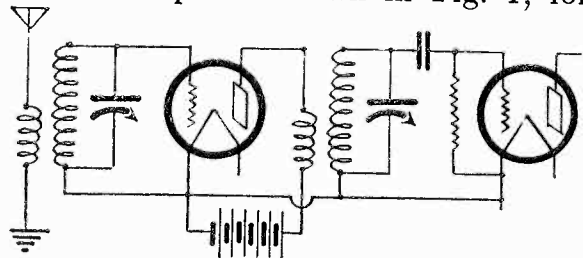

Fig. 1. Simple Form of R.F. Amplifier.
**N**O RADIO frequency amplifier reaches the theoretical ideal of giving equal increase of selectivity and gain for all wavelengths without some tendency to oscillate. The simple form of amplifier shown in Fig. 1, for